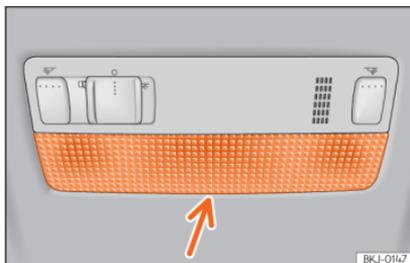

Fig. 56 Front reading light.
- Insert a fine screwdriver between the casing and the glass »» **Fig. 56**.